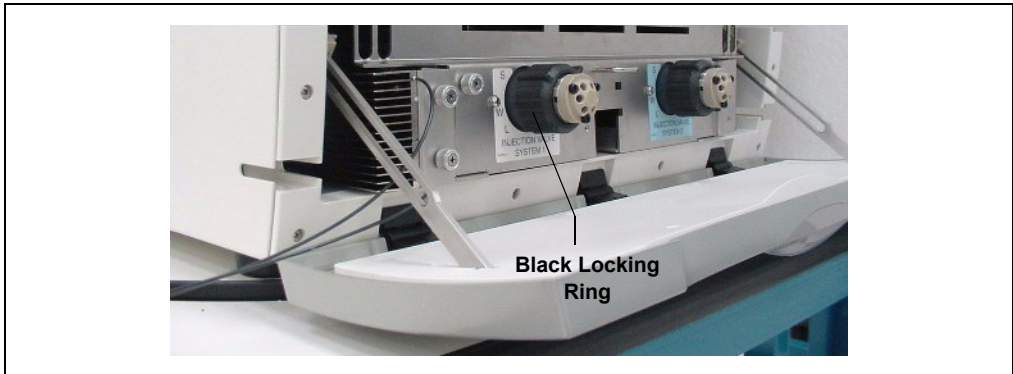

Figure 9-24. Unscrew the Locking Ring
4. Unscrew the black locking ring on the front of the valve (see Figure 9-24) and remove the ring.